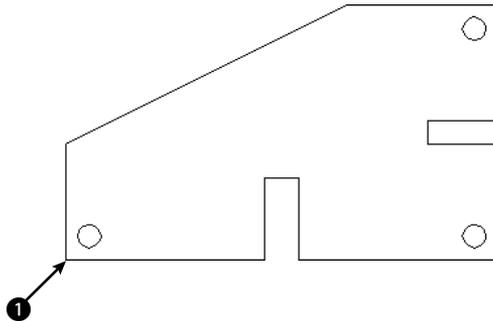
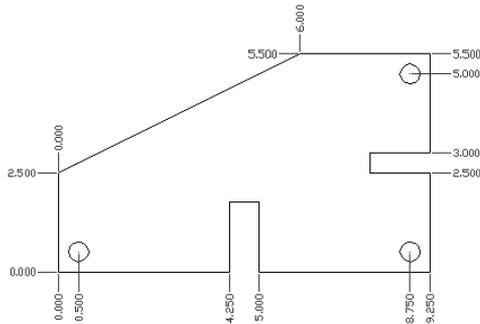

Figure 14-21: A sheet-metal template.
Figure 14-22: The dimensioned template.
2. Save the file as ab14-05.dwg in your AutoCAD Bible folder. This drawing shows a simple sheet-metal template, as shown in Figure 14-21. Snap should be on. Set a snap distance of 0.25 units. Right-click the SNAP button on the status bar and make sure that grid snap is on. If the Dimension toolbar isn't visible, right-click any toolbar and check Dimension.
3. Choose Tools ⇨ Move UCS. At the Origin point <0,0,0>: prompt, pick ❶ in Figure 14-21.
4.  Choose Ordinate Dimension from the Dimension toolbar. At the Specify feature location: prompt, choose ❶ in Figure 14-21. At the Specify leader endpoint or [Xdatum/Ydatum/Mtext/Text/Angle]: prompt, pick a point 0.5 units to the left of ❶, as shown in Figure 14-22. (Because Snap is on, this is easy. If necessary, press F6 until you get polar coordinates to display in the lower-left area of the drawing screen.)
5. Repeat the DIMORDINATE command. At the Specify feature location: prompt, choose ❶ in Figure 14-21. At the Specify leader endpoint or [Xdatum/Ydatum/Mtext/Text/Angle]: prompt, pick a point 0.5 units below ❶.
6. Continue to dimension the drawing, using Figure 14-22 as a guide.